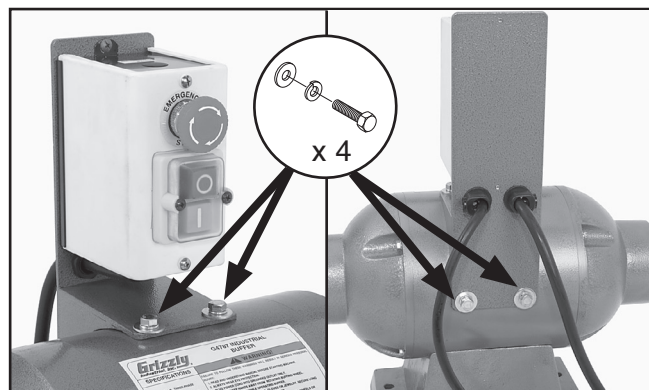

Figure 10. Control box installed.
2. Secure the control box with the four $\frac{5}{16}$ "-18 x $\frac{1}{2}$ " hex bolts (Model G3622) or $\frac{5}{16}$ "-18 x $\frac{3}{4}$ " hex bolts (all other models), and four flat washers and lock washers, as shown in **Figure 10**.